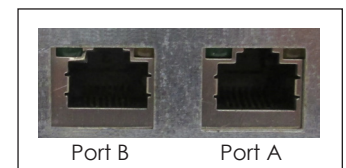

Figure 6: Network Ports
1. Connect one end of the RJ45 network cable to the network Ethernet Port A. Refer to **Figure 6**.